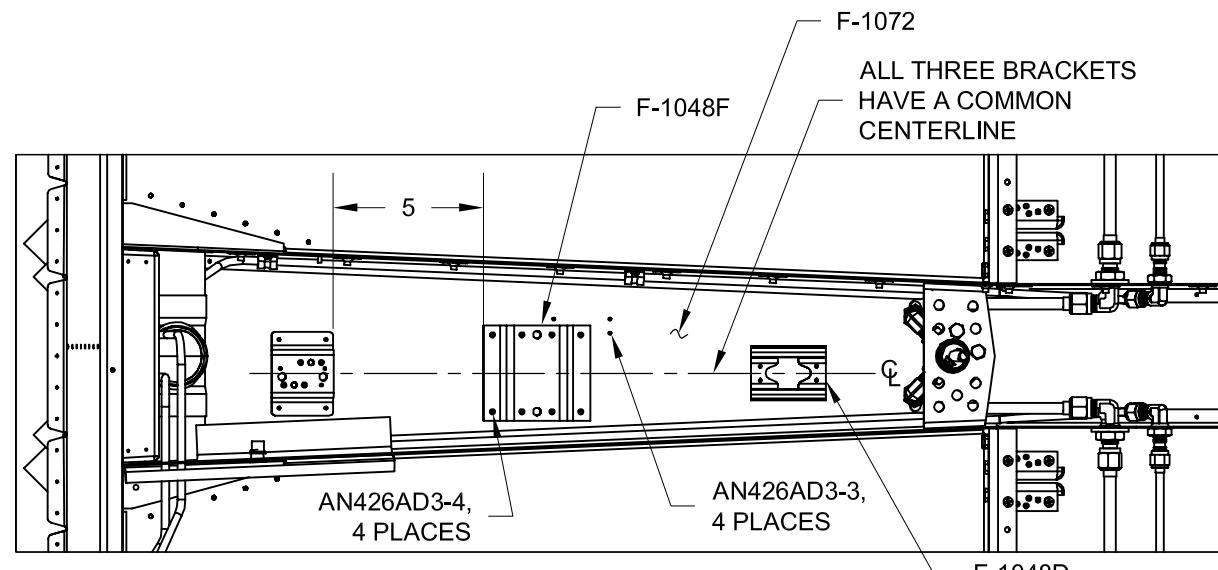

FIGURE 2: MATCH-DRILLING THE FACET FUEL PUMP BRACKET
Step 3: Remove the forward most F-1048D Fuel Filter Bracket. Position the F-1048F Facet Pump Bracket as shown in Figure 2, then match-drill #40 the four attach holes in the flanges of the facet pump bracket into the F-1072 Fwd Fuse Bottom Skin. Remove the facet pump bracket.
Step 5: Fill the four holes that attached the forward most F-1048D Fuel Filter Bracket with rivets as called out in Figure 2.